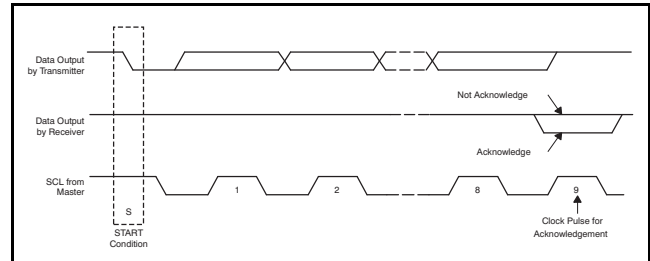
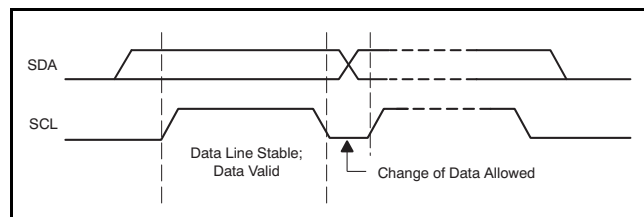

Figure 114. Acknowledge and Not Acknowledge Signals on the I²C Bus
Figure 115. I²C Bus Bit Transfer
Other than specific timing signals, the I²C interface works with serial bytes. At the end of each byte, a ninth clock cycle is used to generate/detect an acknowledge signal, as shown in Figure 114. An *acknowledge* is when the SDA line is pulled low during the high period of the ninth clock cycle. A *not-acknowledge* is when the SDA line is left high during the high period of the ninth clock cycle.
- The master initiates data transfer by generating a start condition, defined as when a high-to-low transition occurs on the SDA line while SCL is high, as shown in Figure 114. All I²C-compatible devices recognize a start condition.
- The master then generates the SCL pulses, and transmits the 7-bit address and the read/write direction bit (R/W) on the SDA line. During all transmissions, the master ensures that data are valid. A valid data condition requires the SDA line to be stable during the entire high period of the clock pulse, as shown in Figure 115. All devices recognize the address sent by the master and compare it to the internal fixed addresses. Only the slave device with a matching address generates an acknowledge by pulling the SDA line low during the entire high period of the ninth SCL cycle, as shown in Figure 114. Upon detecting this acknowledge, the master recognizes the communication link with a slave has been established.
- To signal the end of the data transfer, the master generates a stop condition by pulling the SDA line from low to high while the SCL line is high (see Figure 115). This action releases the bus and stops the communication link with the addressed